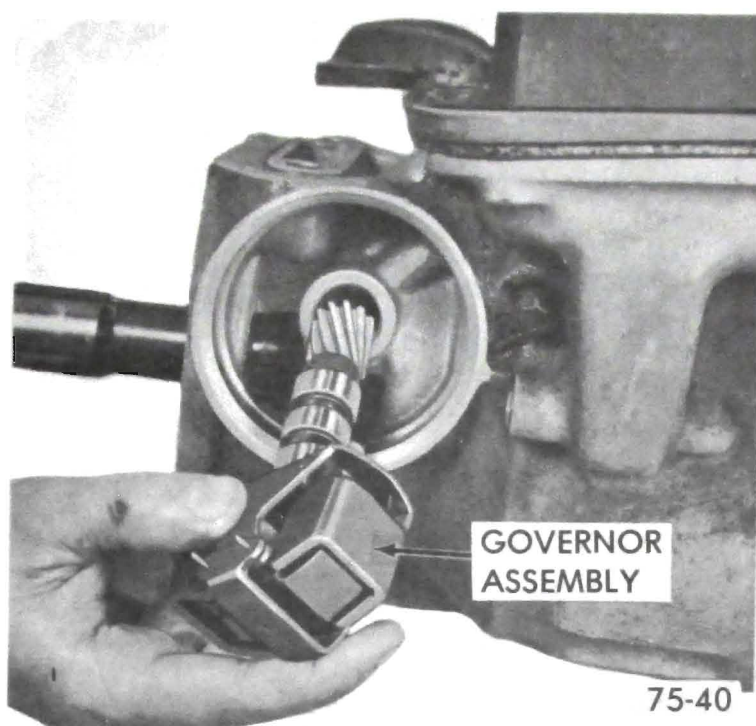

Figure 75-58
3. Withdraw governor assembly from case. See Figure 75-58.